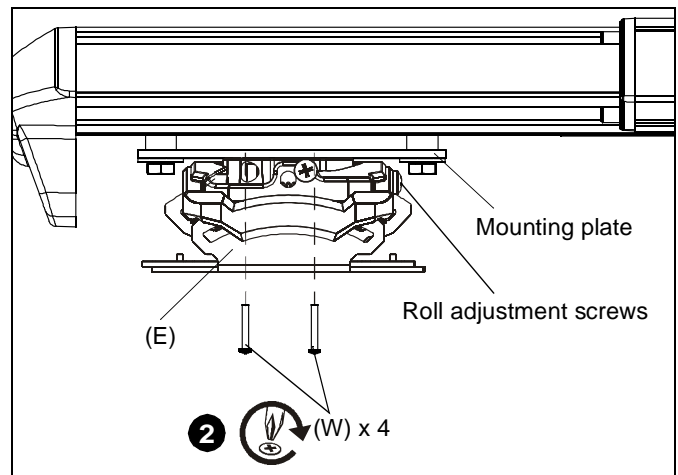

Figure 15
2. Install four #10-24 x 1-3/8" Phillips pan machine screws (W) through projector mount holes and into mounting plate. (See Figure 15)
**IMPORTANT ! :** If projector mount is NOT installed in the same direction as shown, ROLL adjustment screws will be inaccessible! (See Figure 15)